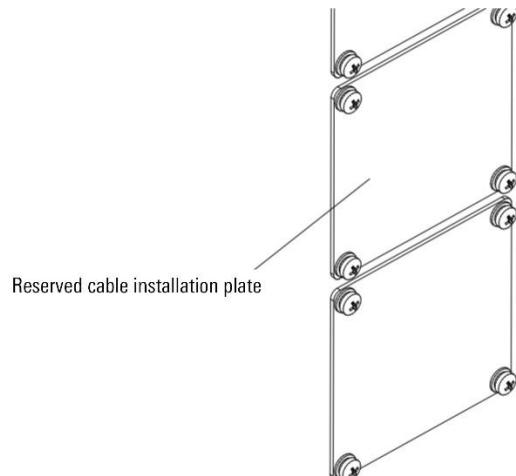
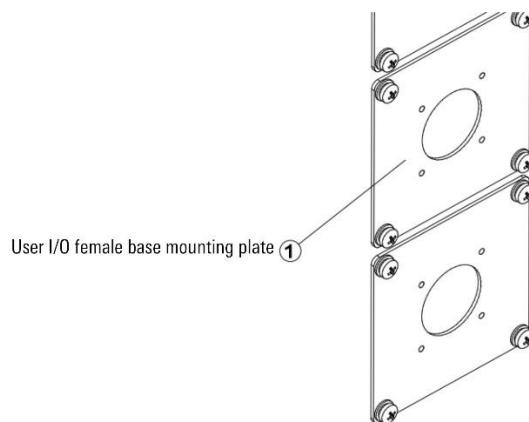

Figure 16-10 Reserved cable installation plate
Figure 16-11 User I/O female base mounting plate
Step1. Remove the original reserved cable mounting plate (refer to Figure 16-10) with a cross screwdriver, and install the ① user I/O female mounting plate (refer to Figure 16-11) on the cabinet.